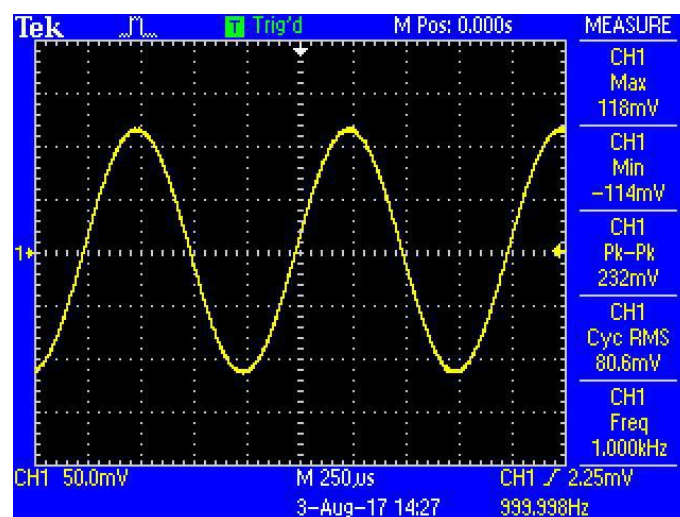

Fig.58 Parameters of Measured Signal
3. Turn on the function signal generator and set “Function: Sine”, “Amplitude: 80mVrms”, “Frequency: 1kHz”, “Output Impedance: High Z”, as is shown in Fig.58.